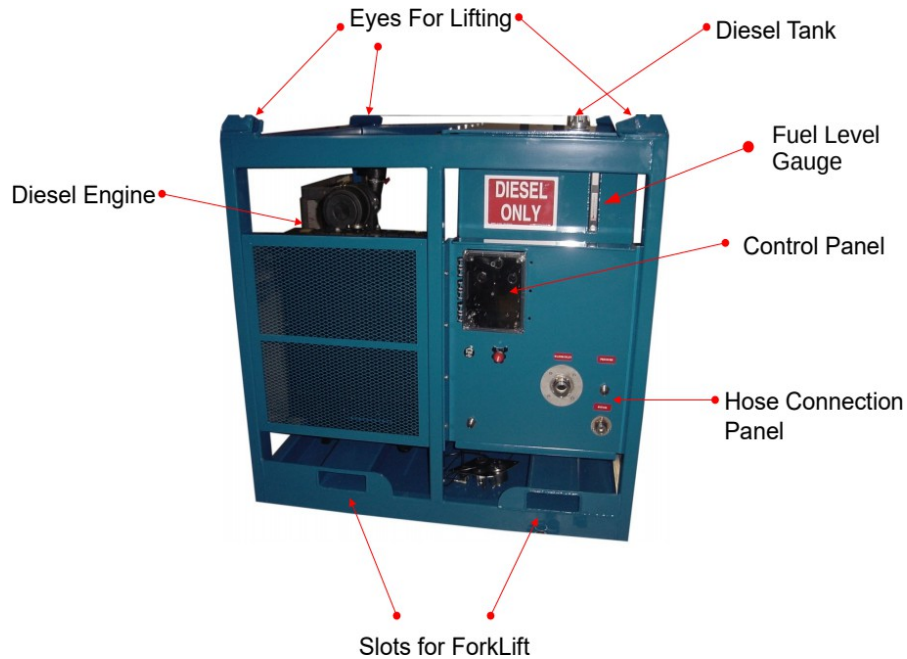

Figure 2.2 – CaviBlaster 2040-D General Features
5. Connect the bypass hose (See **Figure 2.2**)
6. Connect the pressure hose (See **Figure 2.2**)
7. Connect the air starter hose (See **Figure 2.2**)
The feed water inlet connection is located on the control panel (See **Figure 2.2**). A belt-driven self-priming centrifugal water pump is supplied to provide positive inlet water pressure to the main pressure pump. Two water supply conditions are acceptable for the CaviBlaster power unit.
1. Connect the cam-lock socket on the 1-1/2" clear PVC feed hose to the water inlet connection on the control panel (See **Figure 2.2**).
2. Connect a 1-1/2" cam-lock socket on the water supply hose to the water inlet connection on the control panel (See **Figure 2.2**).
1. Locate the water supply tank so that the tank outlet is higher than the water inlet on the control panel (See **Figures 2.2 and 4.4**).
6. Open the air supply valve at the source being used to power the air starter. Push the black Engine Start knob (See **Figure 2.2**) "IN" to activate the air starter. If the engine does not start within 10 seconds, turn the air supply off and wait at least 30 seconds before operating the air starter again. Once the engine starts, turn off the air supply to the air starter. **Warning – air supply to the starter should not exceed 120-PSI (8 BAR).**